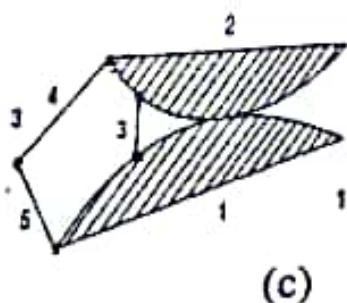

Fig no 1
**b** Calculate the degree of freedom of the mechanism as shown in fig no 1. **6**